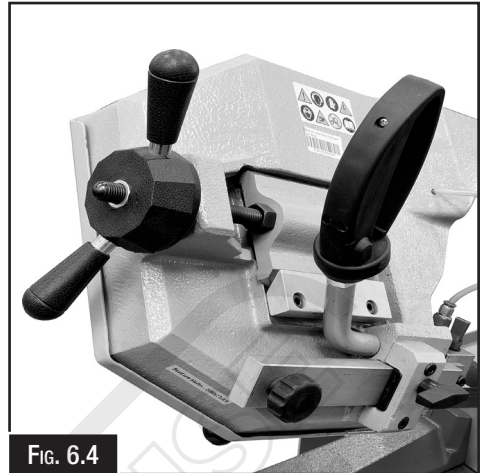

FIG. 6.4
6. Release the tension off the blade by turning the tension handle clockwise until the blade is loose. (Fig. 6.4)